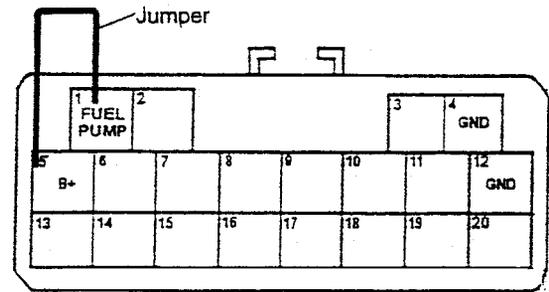

Figure KA007-2
2. Locate the underhood data link connector (DLC). Use a fused jumper to connect the fuel pump test terminal to the B+ terminal of the DLC (Figure KA007-2). Turn the ignition on and note the gauge reading. Compare reading to the regulated fuel pressure specified in Table KA007-1.
3. Reconnect the battery ground. With a fused jumper, connect the fuel pump test terminal 1 to the B+ terminal (5) in the underhood diagnostic link connector (DLC) (Figure KA007-2). Turn the ignition switch to the ON position. Note the gauge reading for unregulated fuel pressure, and compare it with the specified value listed in Table KA007-1.